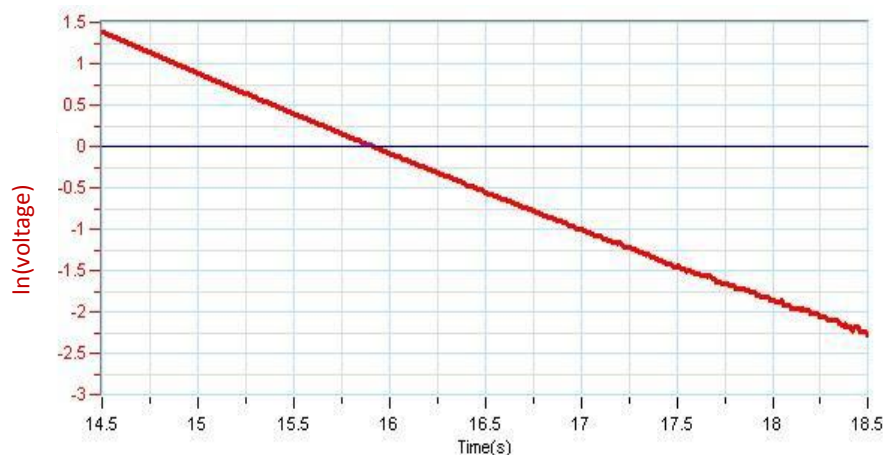

Figure 5
- b. In the **G1** drop down menu, select the voltage. This will give a graph of $\ln V$ vs. time (Figure 5).